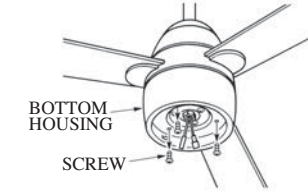

FIG.15
1. Loosen 3 screws from the bottom housing. (see Fig.15)